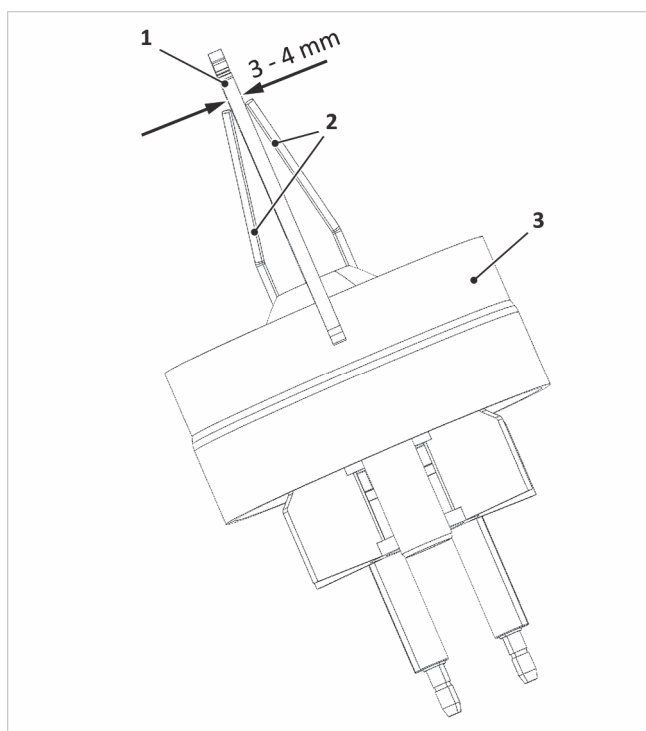

Fig. 37: Checking the ignition electrode gaps
3. Check the electrode gaps as shown in → fig. 37 and correct by carefully bending them, if necessary.